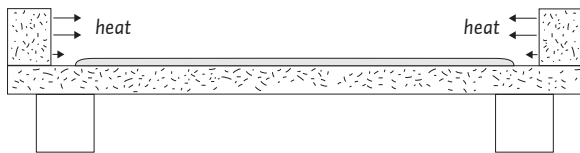

Figure 6
2. Create a perimeter wall of hard brick around the outer edges of the piece. Upon heating, the hard brick will absorb heat. Upon cooling, this absorbed heat will radiate back toward the glass and prevent its edges from cooling too rapidly. (Figure 6)